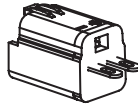

Fig 2
4. Locate the 2-pin tweeter adapter plug and connect it to your new tweeter (Fig 2), making sure the polarity is correct.
5. Locate the 2-pin tweeter adapter plug and connect it to your new tweeter (Fig. 2), making sure the polarity is correct.